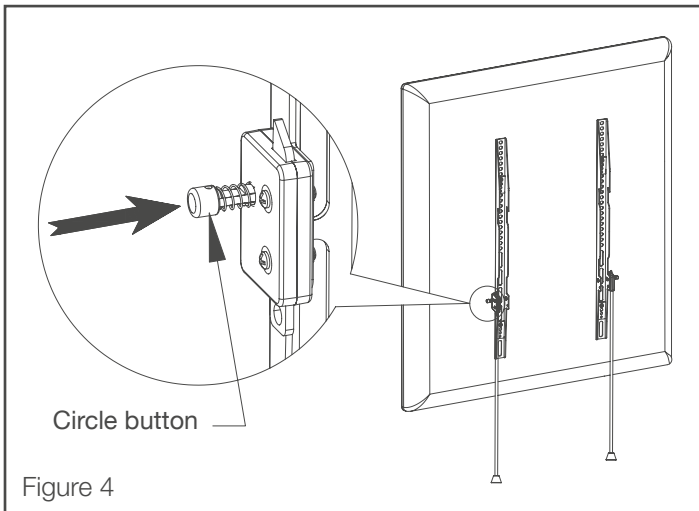

Figure 4
1. Push the Circle button on the two mounting arms to return the lock to the ready position (see Figure 4).